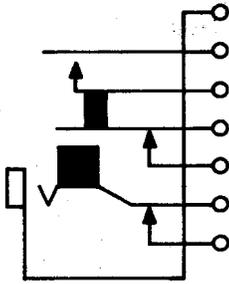

Fig. 4—309C Jack
**2.04 309C:** This single-mounted jack (Fig. 4) is used with the 347 plug. The contact springs are equipped with bimetallic bar-type contacts that have caps made of No. 2 metal. The 309C jack replaces the 309CK jack.